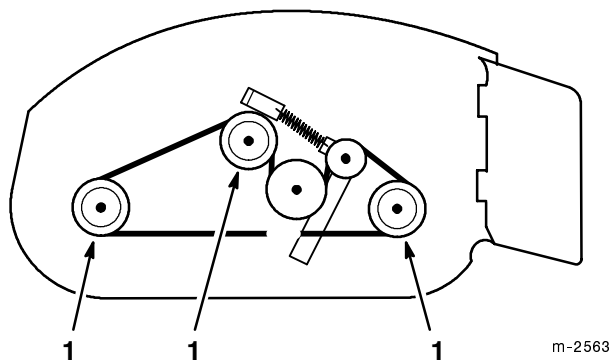

Figure 21
1. Grease the fittings on the three spindle pulley bearings (Fig. 21).